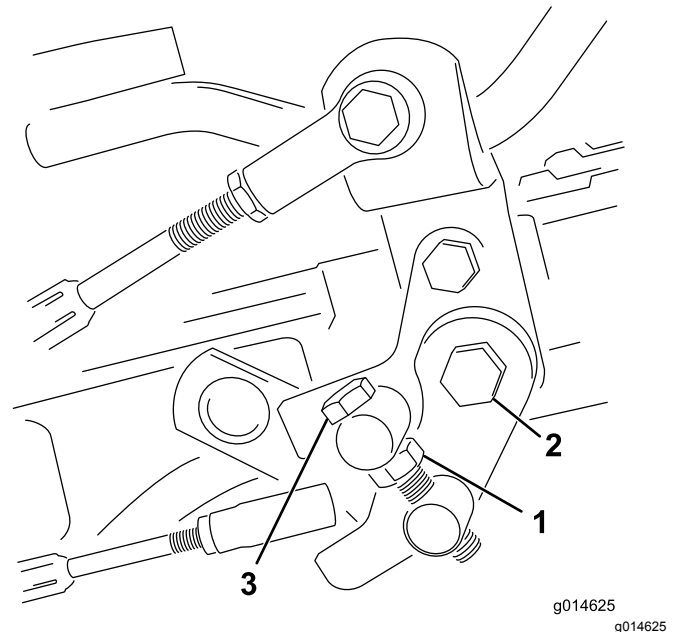

Figure 34
1. Loosen the jam nut on the trunnion bolt (Figure 34).
4. Tighten the jam nut on the trunnion bolt and the nut on the pedal pivot to lock the adjustment (Figure 34). Check the adjustment and adjust as required.